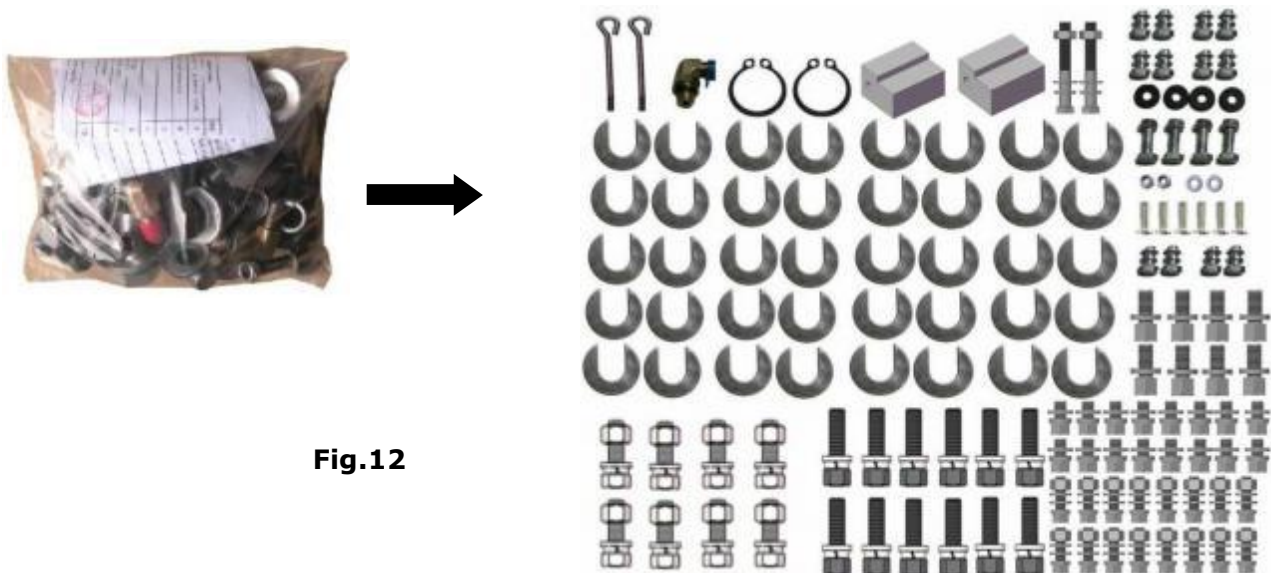

Fig.12
6. Check the parts of the parts bag according to the parts bag list (See Fig. 12)